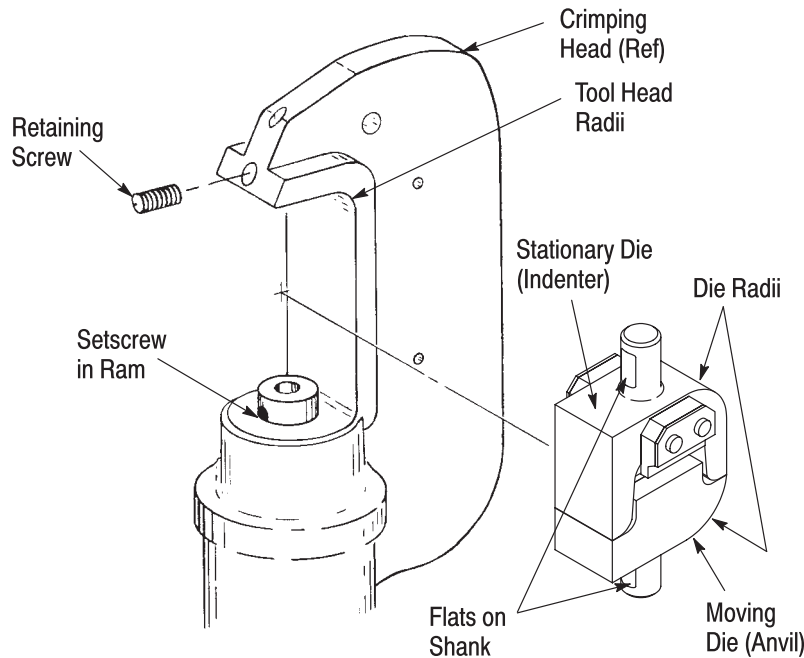

Figure 1
The radii of both dies must match the radii of the tool. See Figure 1.
1. Loosen retaining screw in top section of crimping head. See Figure 1.